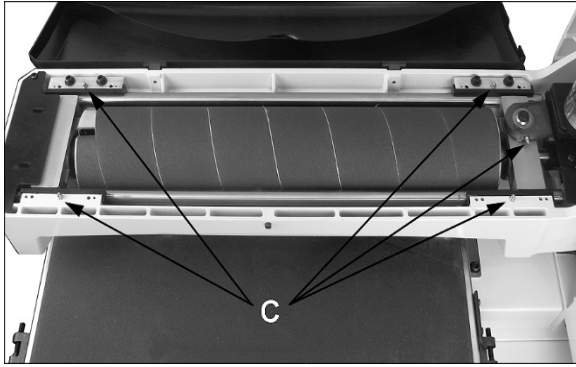

Figure 10-2: maintenance areas
- Insert bearing grease (NLGI #2, DIN 51818) into the five fittings (C, Figure 10-2) every 150 work hours. *Do not over-grease.*